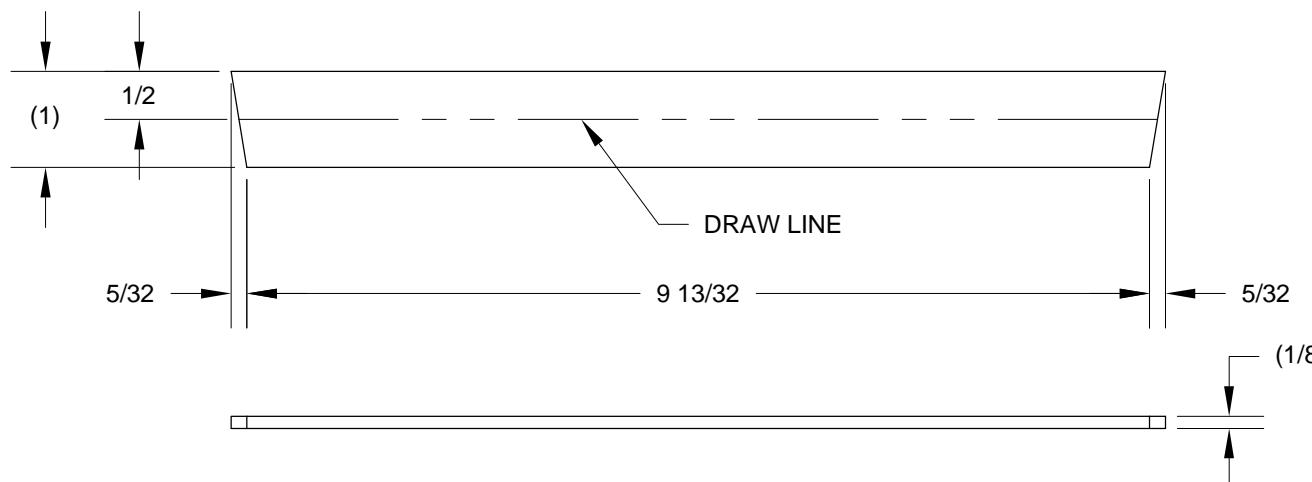

FIGURE 2: F-1010B SPACER
Step 3: Make the F-1010B Spacer out of a piece of AS3-125 x 1.000 using the dimensions in Figure 2. Draw a line down the middle of the part as shown in the Figure 2.